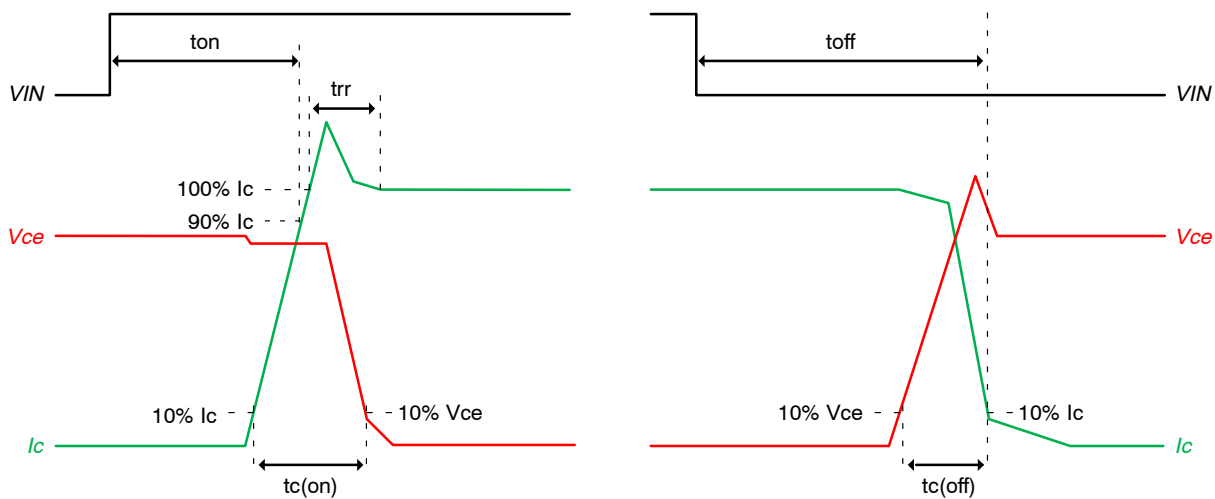

Figure 3. Switching Time Definition
- ton and toff include the propagation delay of the internal drive IC. tc(on) and tc(off) are the switching times of IGBT under the given gate*driving condition internally. For the detailed information, please see *Figure 3*.